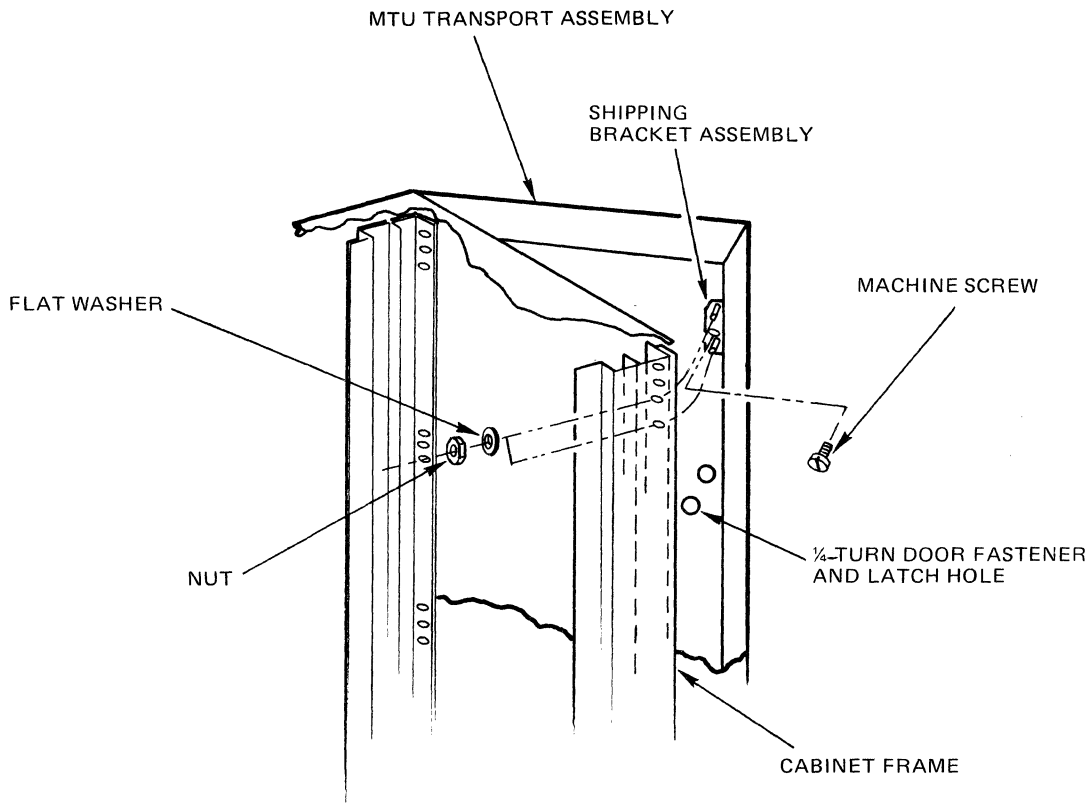

Figure 2-1. Basic/Expansion Cabinet Frame (Top Front)
2. From the rear of the cabinet, locate the shipping bracket assembly (see Figure 2-1) and remove the two shipping bracket assembly nuts and washers from the upper right-hand side of the MTU transport assembly. Save the shipping bracket assembly nuts and washers for use in step 7 of this procedure.
5. Remove the machine screw (see Figure 2-1), securing the shipping bracket assembly onto the MTU transport assembly, and the shipping bracket assembly.